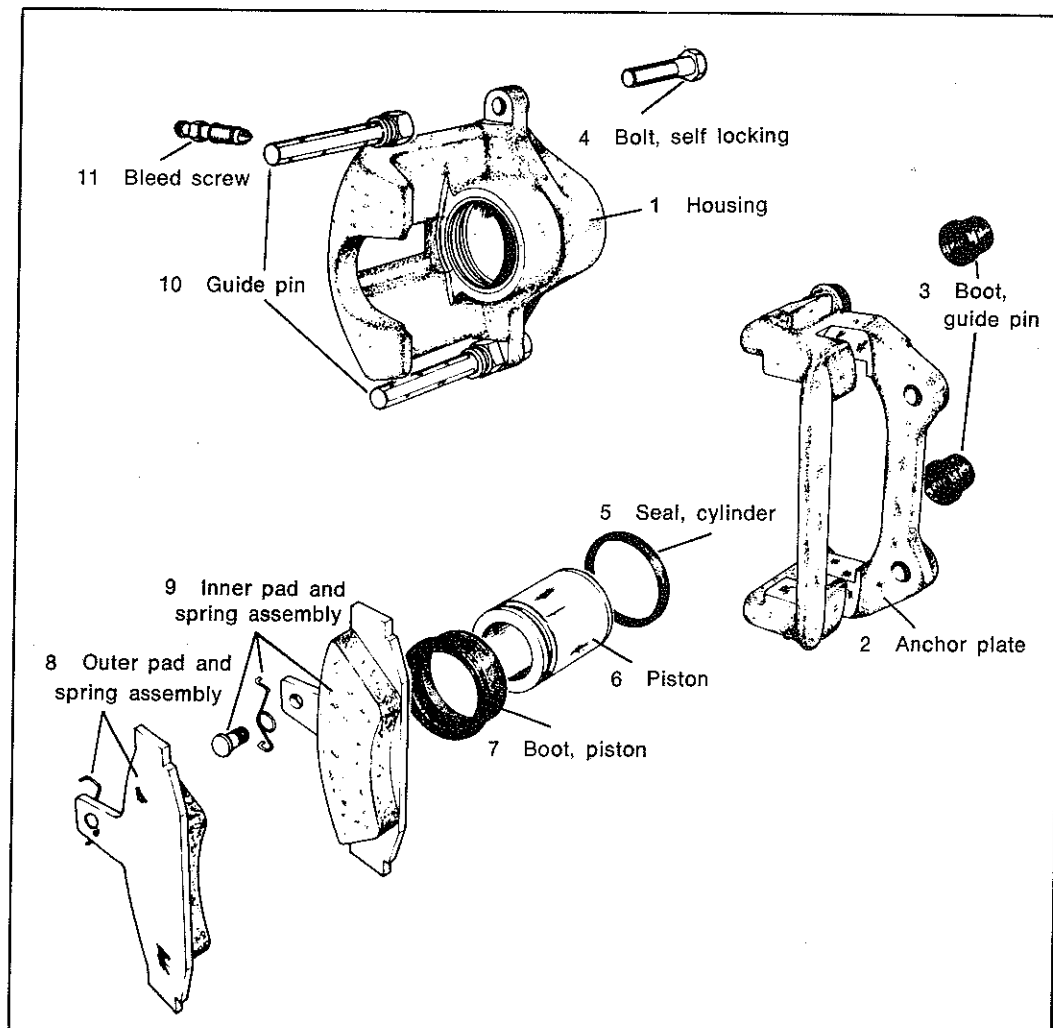

Fig. 1—Caliper assembly—disassembled view
(1) Check for piston seal leaks (evident by brake fluid in and around boot area and inboard lining) and for any ruptures of piston dust boot. If boot is damaged or fluid is evident, it will be necessary to disassemble the caliper assembly and install a new seal, boot and piston if damaged or corroded. (Refer to "Disassembling Caliper Assembly").
(2) Check the guide pins (item 10 Fig. 1) for freedom of movement, also the condition of the rubber boots (item 3, Fig. 1).
(3) If the guide pins cannot be moved freely by hand, these should be removed and cleaned. Also renew the rubber boots if they are found to have deteriorated.
(1) If the guide pins have been removed, lubricate with silicon grease prior to fitting the guide pins to the anchor plate.
(2) Connect a brake bleeding hose to the bleed screw (item 11 Fig. 1).
(3) Insert the end of the hose in a partially filled glass jar of brake fluid and open the bleed screw.
(4) Press the piston by hand, evenly into the bore of the housing until the piston is fully bottomed.
(5) Tighten the bleed screw and disconnect the brake bleeding hose.
(6) Install new pads into the mounting bracket.
(7) Lower the housing over the disc pads, ensuring that the pad springs are correctly located in the housing and install a new self locking bolt (item 4 Fig. 1).
(8) Hold the guide pin (item 10 Fig. 1) with a suitable spanner and tighten the self locking bolt to 38-43 Nm (28-32 lbs./ft.).
(9) Depress the brake pedal several times to actuate the caliper piston to bring the pad assemblies into position against the disc. Check the fluid level in the master cylinder reservoir and top up if necessary.
(10) Install the wheel and tyre assembly and tighten the nuts to the specified torque.
- (1) Raise front of vehicle and support on jack stands.
- (2) Remove the wheel and tyre assembly.
- (3) Discharge the brake fluid via the caliper bleed screw, (item 11 Fig. 1) by pumping the brake pedal.
- (4) Disconnect the fluid supply pipe from the caliper hose and remove the hose retaining clip from the body and suspension strut bracket.
- (5) Disconnect the hose from the caliper.
- (6) Plug the brake pipe and caliper to prevent ingress of dirt.
- (7) Detach the caliper housing from the mounting bracket by removing the two caliper self locking bolts (item 4 Fig. 1).